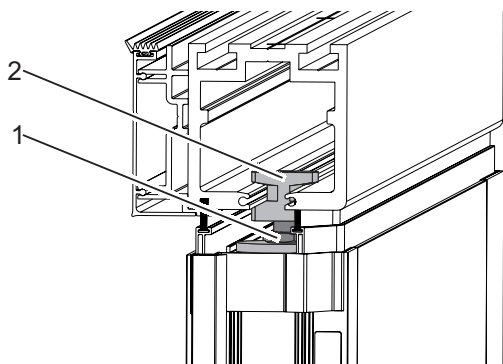

Fig. 12: Fastening the fixed panel holder
- Slightly turn the locking screws (Fig. 12/1) on the fixed panel holders (Fig. 12/2) until the fixed panel holder is fixed.